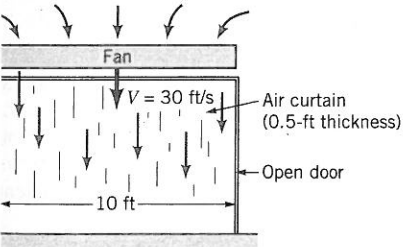

Figure P5.127
**5.127**  (See Fluids in the News article titled “Curtain of Air,” Section 5.3.3.) The fan shown in Fig. P5.127 produces an air curtain to separate a loading dock from a cold storage room. The air curtain is a jet of air 10 ft wide, 0.5 ft thick moving with speed  $V = 30 \text{ ft}/\text{s}$ . The loss associated with this flow is  $\text{loss} = K_L V^2/2$ , where  $K_L = 5$ . How much power must the fan supply to the air to produce this flow?
■ Figure P5.127
**127**  (See Fluids in the News article titled “Curtain of Air,” Section 5.3.3.) The fan shown in Fig. P5.127 produces an air curtain separate a loading dock from a cold storage room. The air curtain is a jet of air 10 ft wide, 0.5 ft thick moving with speed  $V = 30 \text{ ft}/\text{s}$ . The loss associated with this flow is  $\text{loss} = K_L V^2/2$ , where  $K_L = 5$ . How much power must the fan supply to the air to produce this flow?